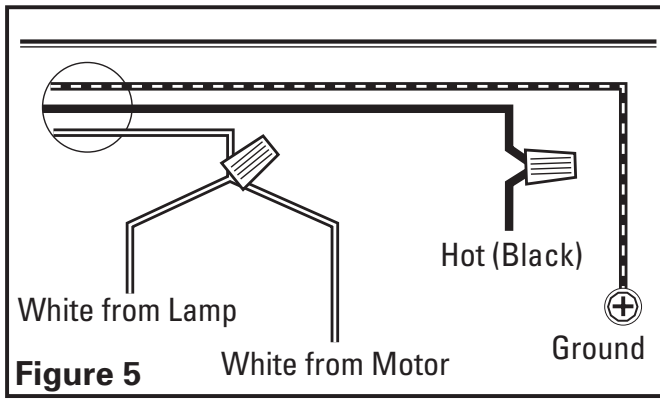

**Figure 4**
4. Install the 4 mounting screw at the previously marked locations. Leave approximately 1/8" clearance. Slide the hood in place through the keyhole slots and align the front of the hood so that it is flush with the front of the cabinets. Tighten all screws securely (**Figure 4**).